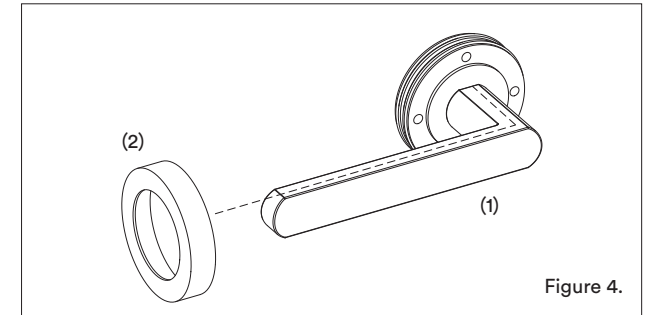

Figure 4.
- 4.2. Unscrew the outer roses from the door lever set (for square rose hardware loosen grub screw and remove) and install the halves on either side of the door, ensuring the levers function in the correct direction.† (Figure 4)